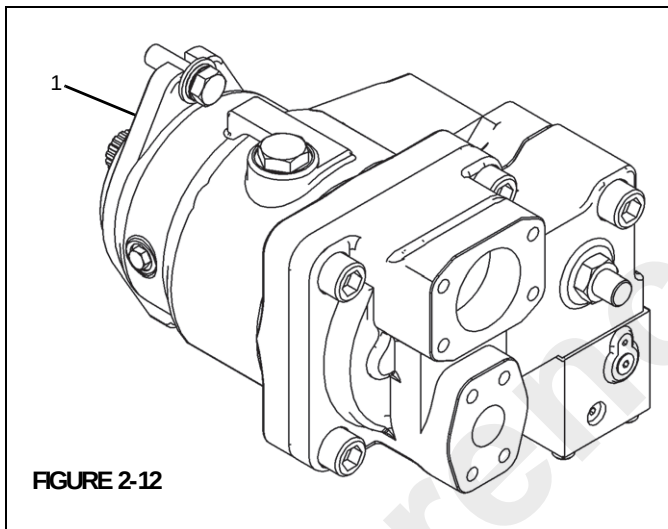

FIGURE 2-12
3. Bolt the pump (1, Figure 2-12) to the PTO with the pump mounting flange.